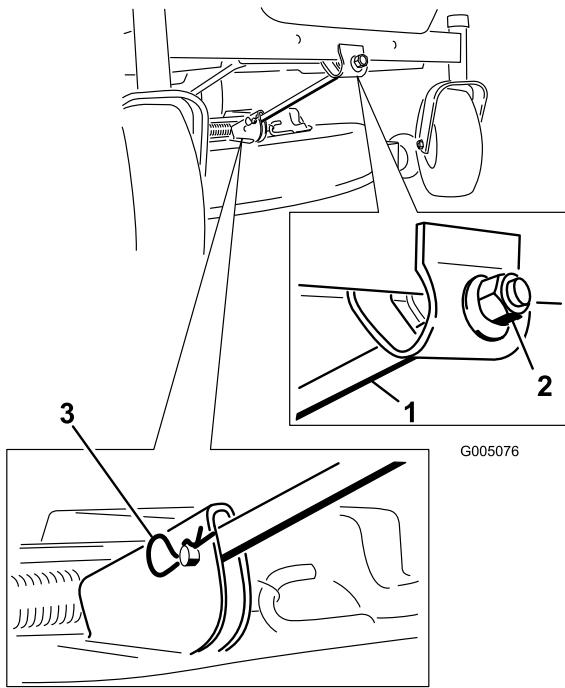

Figure 56
4. Remove the hairpin cotter and clevis pin from the front support rod (Figure 56). Carefully lower the front of the mower deck to the ground.
6. Attach the front support rod to the mower deck with the clevis pin and hairpin cotter (Figure 56).